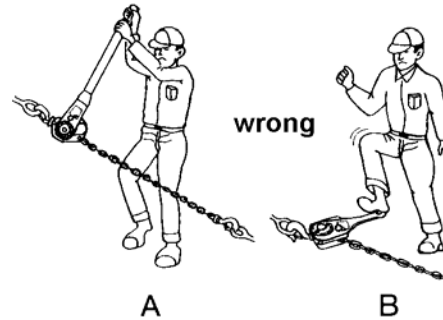

Figure 6
- ❑ Do not use an extension on the lever (A, Fig. 6). Do not use a foot to apply pressure to the lever (B, Fig. 6).